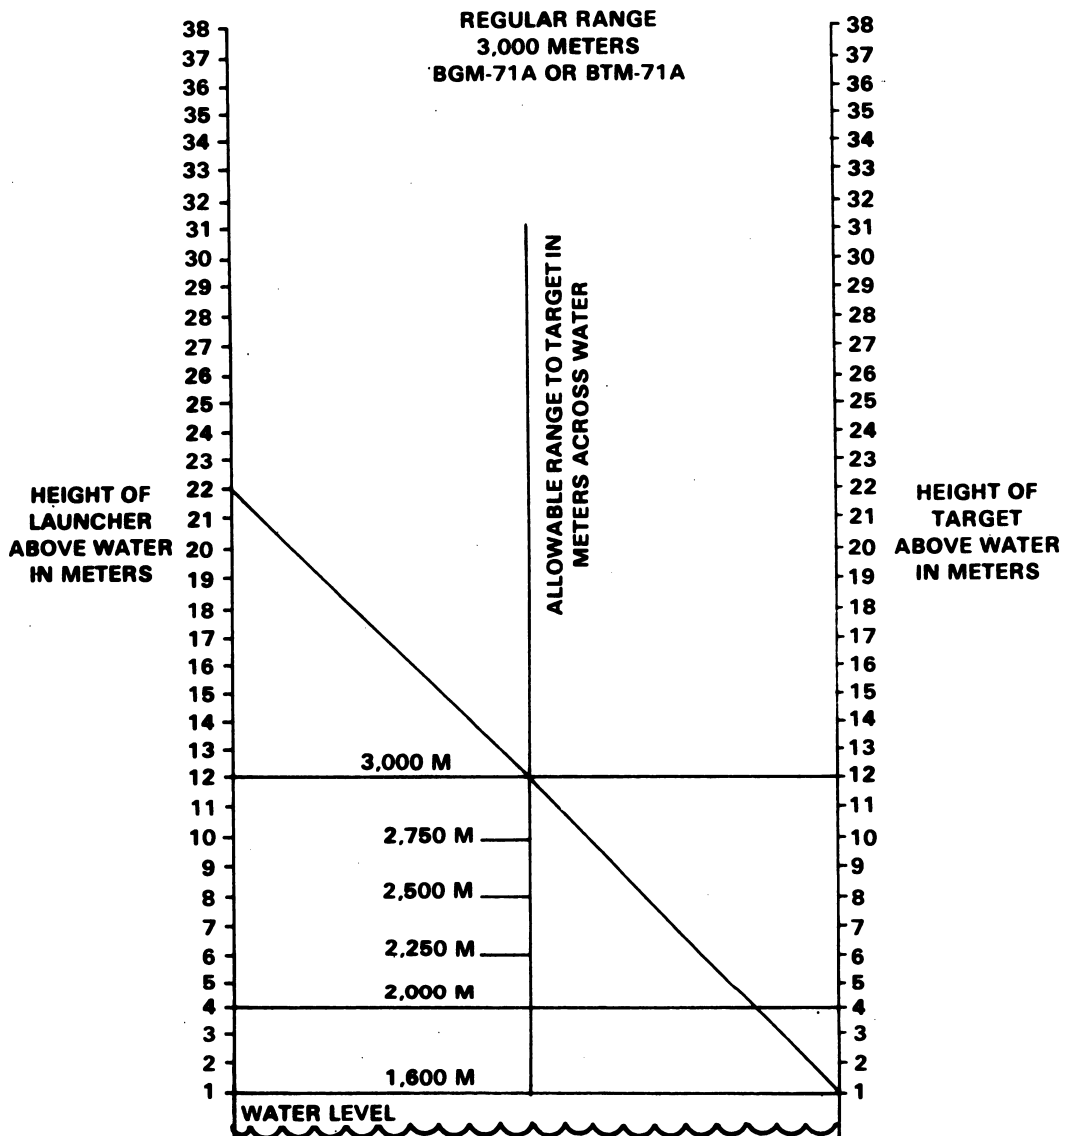
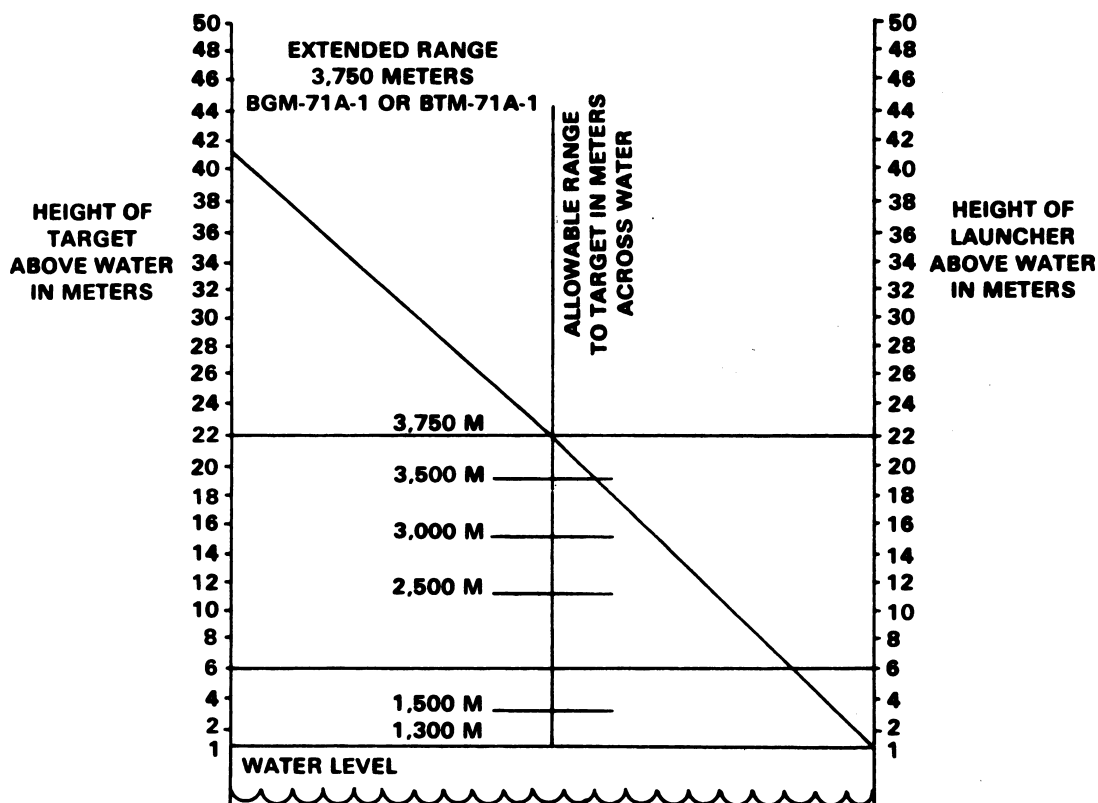

Figure 1. Regular-range chart.
Figure 2. Extended-range chart.
(1) To determine how much water you are capable of firing across, you must first determine how high above water your firing position is (in meters). Then determine how high above water your target will be (in meters). A meter is approximately 3.3 feet.
(2) Then go to the chart that corresponds to the missile you are using: regular-range chart (fig. 1) for 3,000-meter missiles, and extended-range chart (fig. 2) for 3,750-meter missiles.
(3) Find the number on the left side of the chart that corresponds to the height of your launcher above water. Place one end of a straightedge on the tick mark beside that number.
(4) Find the number on the right side of the chart that corresponds to the height of the target above water. Place the other end of the straightedge on the tick mark beside that number.
(5) Read the number at the exact location where the straightedge crosses the center line. You may have to estimate if the straightedge crosses between two numbers. This number is the number of meters of water you can fire over.